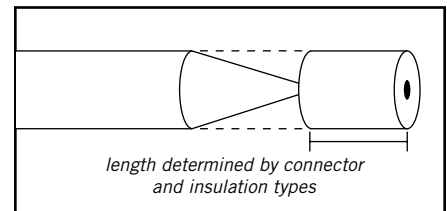

Figure 11
4. Penciling of the insulation requires a 360° perpendicular cut through all but the last 1/16" of insulation, at a predetermined distance from the conductor end. This distance is directly dependent on the type of connector and type of cable insulation. Pencil and smooth the taper before removing the short section of insulation from the conductor. This buffer technique, illustrated in Figure 11, protects the conductor surface against undue abrasion and scoring.